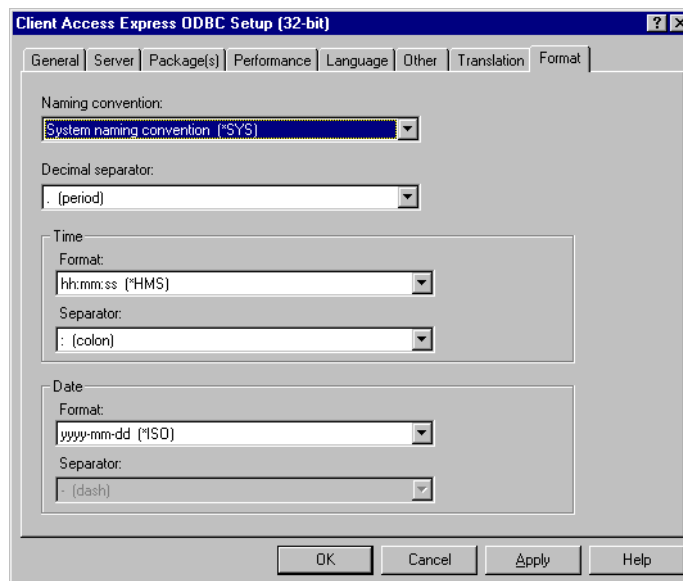

Figure 71. Client Access Express ODBC Setup (32-bit) (Part 6 of 6)
14. Select **System naming convention (*SYS)** for Naming convention as shown in Figure 71.